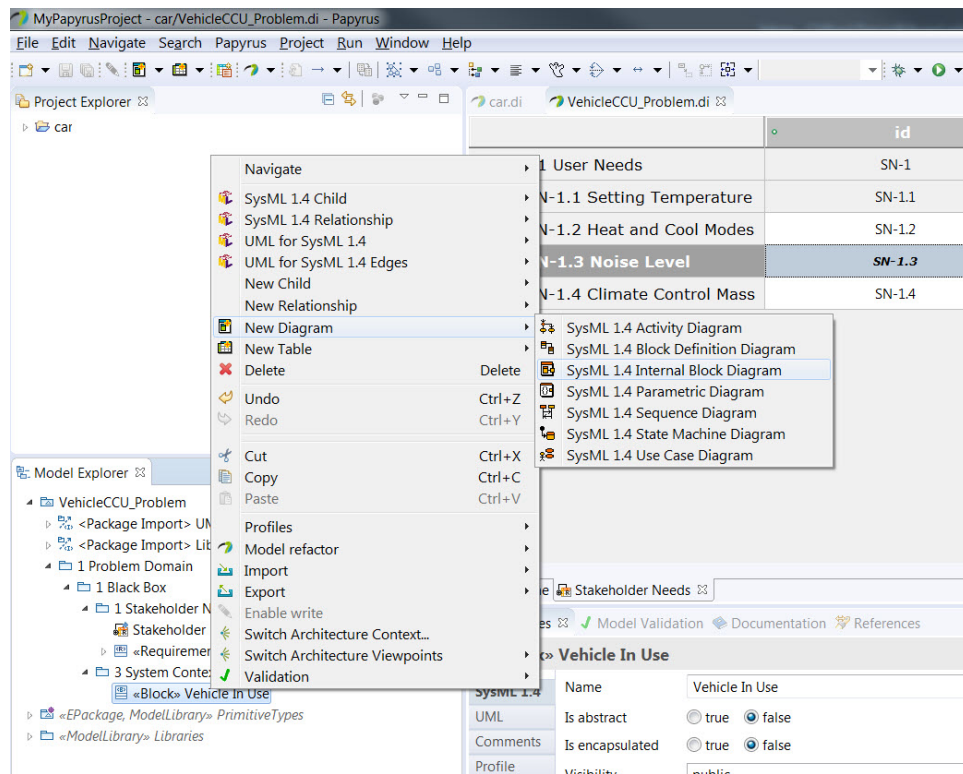
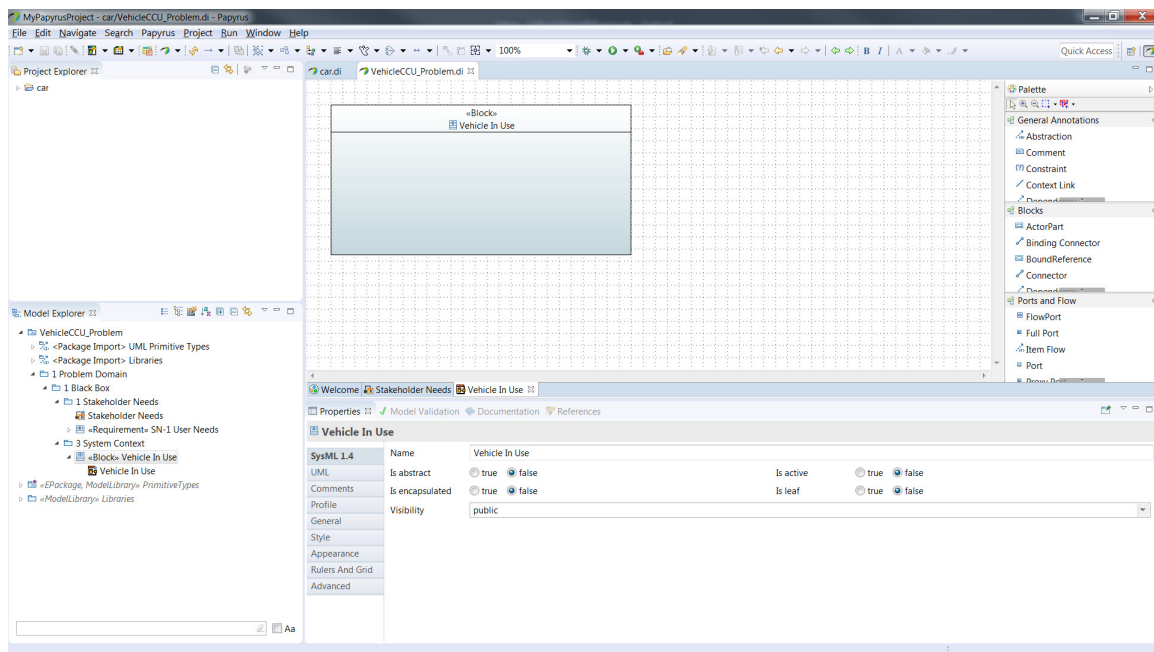

Figure 19: Create Internal Block Diagram
Figure 20: Vehicle In Use Internal Block Diagram
- To specify participants of the Vehicle In Use context we will create a SysML Internal Block Diagram (IBD). Right-click on the *Vehicle In Use* block just created and select **New Diagram** then **SysML 1.4 Internal Block Diagram** (figure 19). Name the new diagram *Vehicle In Use*, the same as the block. You should see the diagram in the main window (figure 20). If you do not, simply Double-click on the *Vehicle In Use* internal block diagram in the *Model Explorer* window.